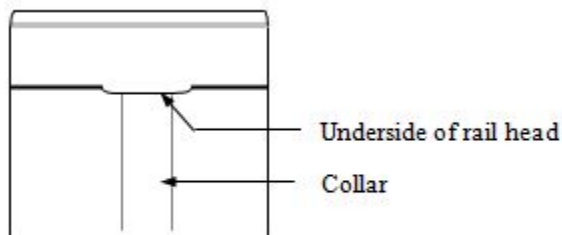

Figure 111L *Underside of Rail Head*
- Taper and remove sharp edges from the teardrop under rail head (See Figure 111L).